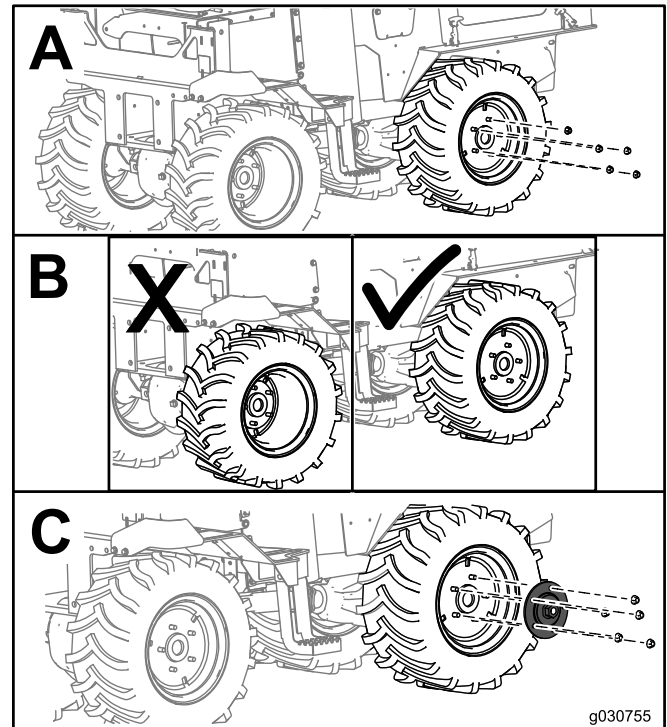

Figure 1
3. Remove the lug nuts from one of the wheels (Box A of Figure 1).
4. Rotate the wheels into the narrow configuration, if they are not already so configured (Box B of Figure 1). Refer to Rotating the Wheels in the *Operator's Manual* of your Pro Sneak machine.
5. Install an adaptor plate onto the wheel hub and secure it with the lug nuts (Box C of Figure 1).